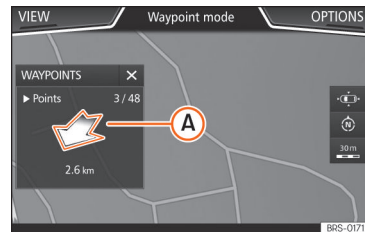

Fig. 231 Offroad route guidance mode
- The general direction of travel is indicated straight ahead by direction arrows in the Infotainment System pop-up window »» Fig. 231 **A**.